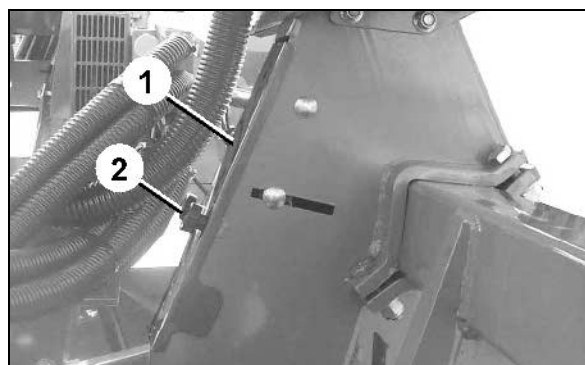

Fig. 31
1. Slacken thumb nut (Fig. 31/2).
2. remove chain guard (Fig. 31/1).